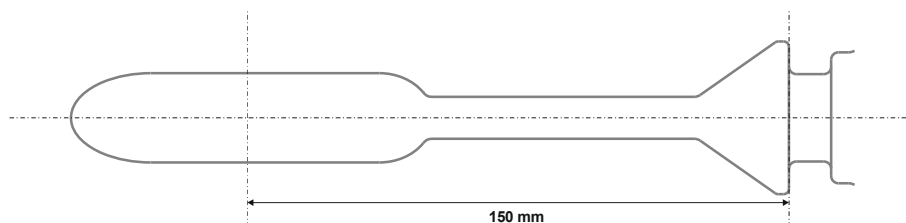

Figure 12: Distance between the center of the drop-shaped tip towards the end of the cone ring for condom fixation.
- The center of the drop-shaped tip has a distance of 150 mm to the end of the cone ring for condom fixation (see Figure 12).